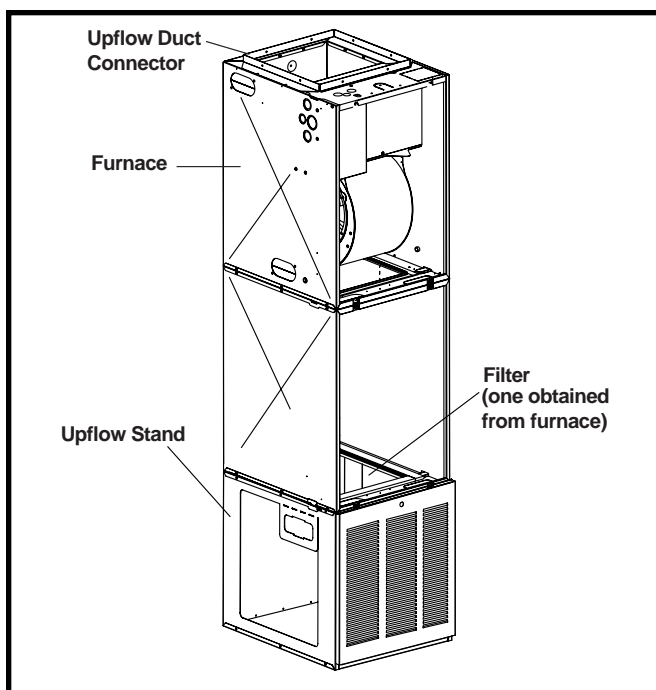

Figure 16. Over-the-Floor Return Air System with Upflow Stand
- Use optional upflow stand with filters or construct a suitably braced mounting platform in closet. See Figure 16 (page 13).
- Use optional upflow duct connector or field supplied connector to attach furnace to overhead supply duct. See Figure 16.
6. Use optional upflow duct connector or field supplied connector to attach furnace to overhead supply duct. See Figure 16.